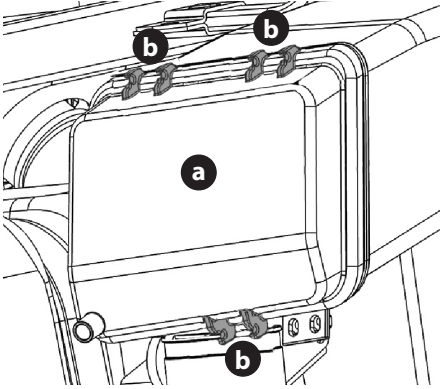

Figure 36
2. Remove the air filter cover (a) from the three air filter cover holders (b) (Figure 36).